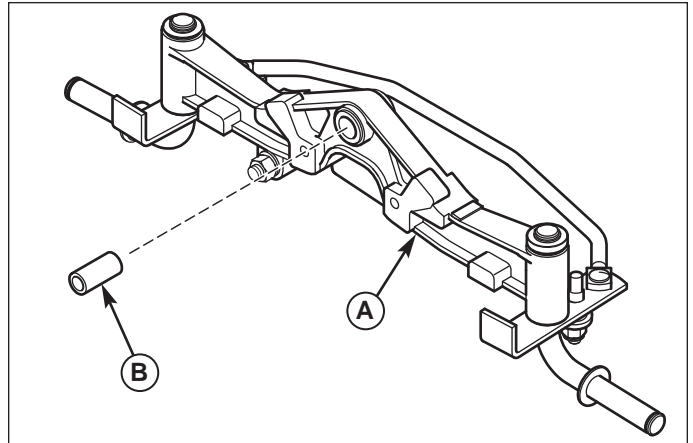

Figure 9 Spacer Installation
17. Clean and grease spacer (B, Figure 9) previously removed from old axle. Then install spacer (B) into new axle (A) as shown.